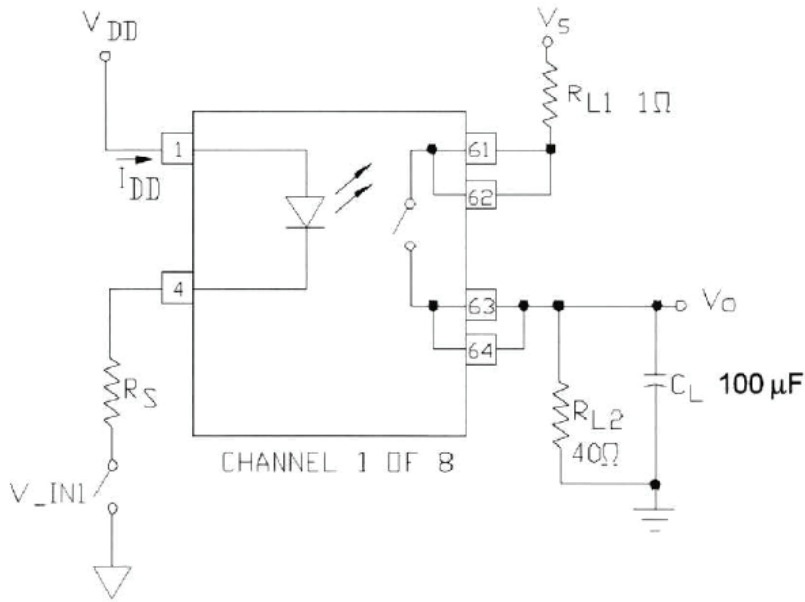

Fig 2. Switching Test Circuit for RDHA701FP10A8CK only
- ① Specification is guaranteed by design.
- ② Rise and fall time are controlled internally.
- ③ Inputs protected by $V_{IN} < 1.0V$ and $V_{IN} > 7.5V$.
- ④ Optically coupled Solid State Relays (SSRs) have relatively slow turn on and turn off times. Care must be taken to ensure that transient currents do not cause a violation of SOA. If transient conditions are present, IR HiRel recommends a complete simulation to be performed by the end user to ensure compliance with SOA requirements as specified in the IRHQ57110 datasheet.
- ⑤ While the SSR design meets the design requirements specified in MIL-PRF-38534, the end user is responsible for product derating as applicable for the application.
- ⑥ Reference Fig. 2, 3 and 4 for Switching Test Circuits and Wave Forms.
- ⑦ Input Supply voltage for RDHA701FP10A8QK shall not exceed 5.25V @ $T_c \geq 70^\circ C$.
- ⑧ Total Dose Irradiation with Input Bias: 10mA I_{DD} applied and $V_{DS} = 0$ during Irradiation.
- ⑨ Total Dose Irradiation with Output Bias: 80 Volts V_{DS} applied and $I_{DD} = 0$ during Irradiation.
- ⑩ IR HiRel does not currently have a DLA Certified Radiation Hardness Assurance Program.